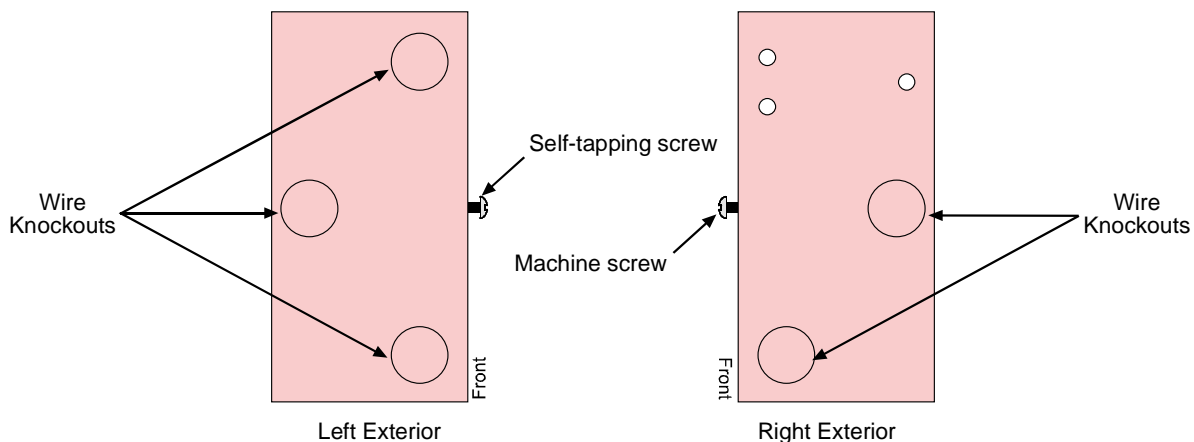

Figure 2: Wire Knockout Locations
- 1) Remove the desired wire knockouts on the enclosure. See Figure 2.